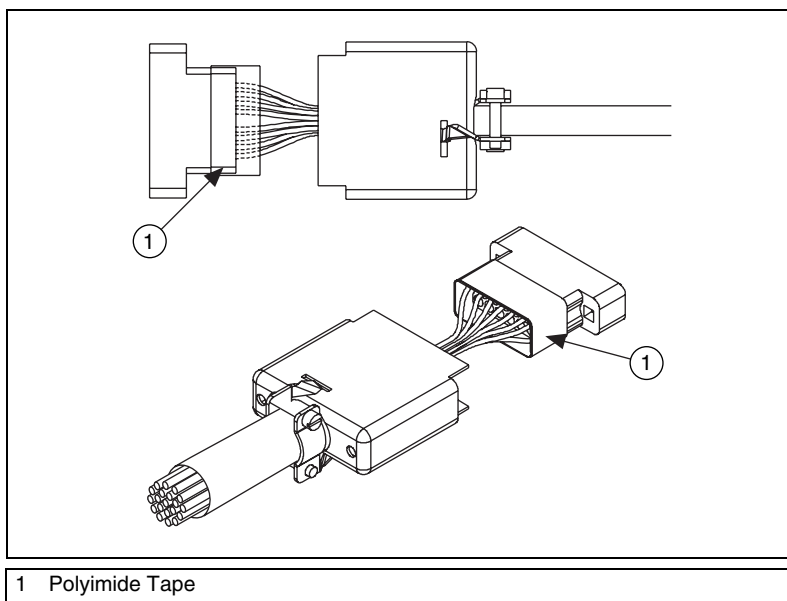

Figure 4. Connector Wrapped with Polyimide Tape
10. Cut 10 in. of polyimide tape from the roll provided. Wrap the tape around the connector twice near the interface between the conductors and the connector. The connector should now look like Figure 4.